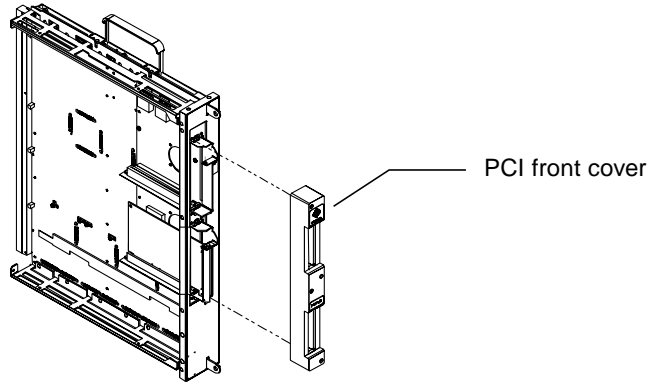

FIGURE 16 PCI Front Cover Installation
8. Install the PCI front cover onto the front of the system board tightening to a torque setting of 0.8 Nm (7.1 inch-pounds). See FIGURE 16.